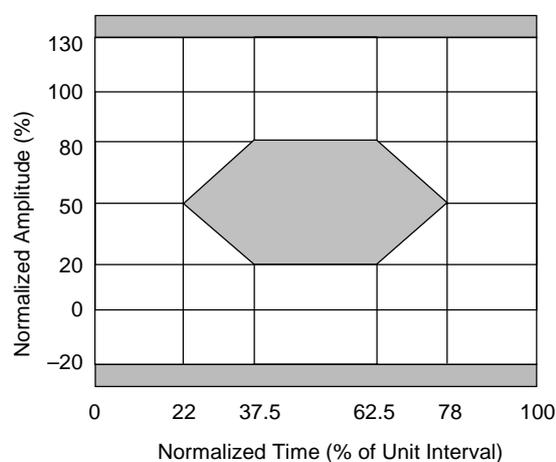

Figure 1. Transmitter Eye Diagram
2. Transmitter optical waveform characteristics are specified by an eye diagram shown in Figure 1.